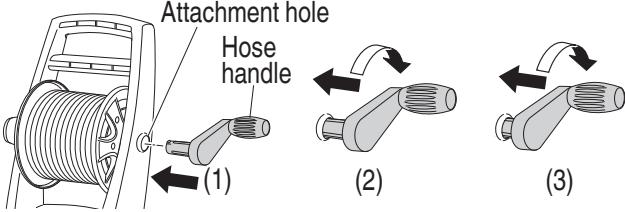

Fig. 4
8. Attaching the hose handle (Fig. 4)